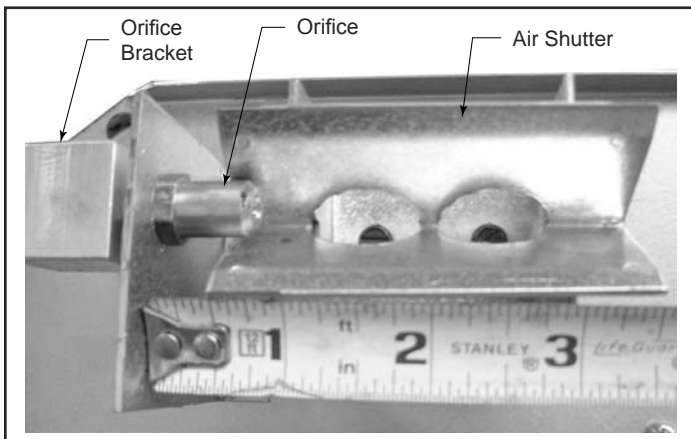

Figure 7.13 - The air shutter setting is 1/2" (13 mm) from the orifice bracket to the edge of the air shutter.
- The air shutter is factory set according to Table 3 and should not need adjustment. The air shutter opening may be verified by measuring as shown in Figure 7.13.